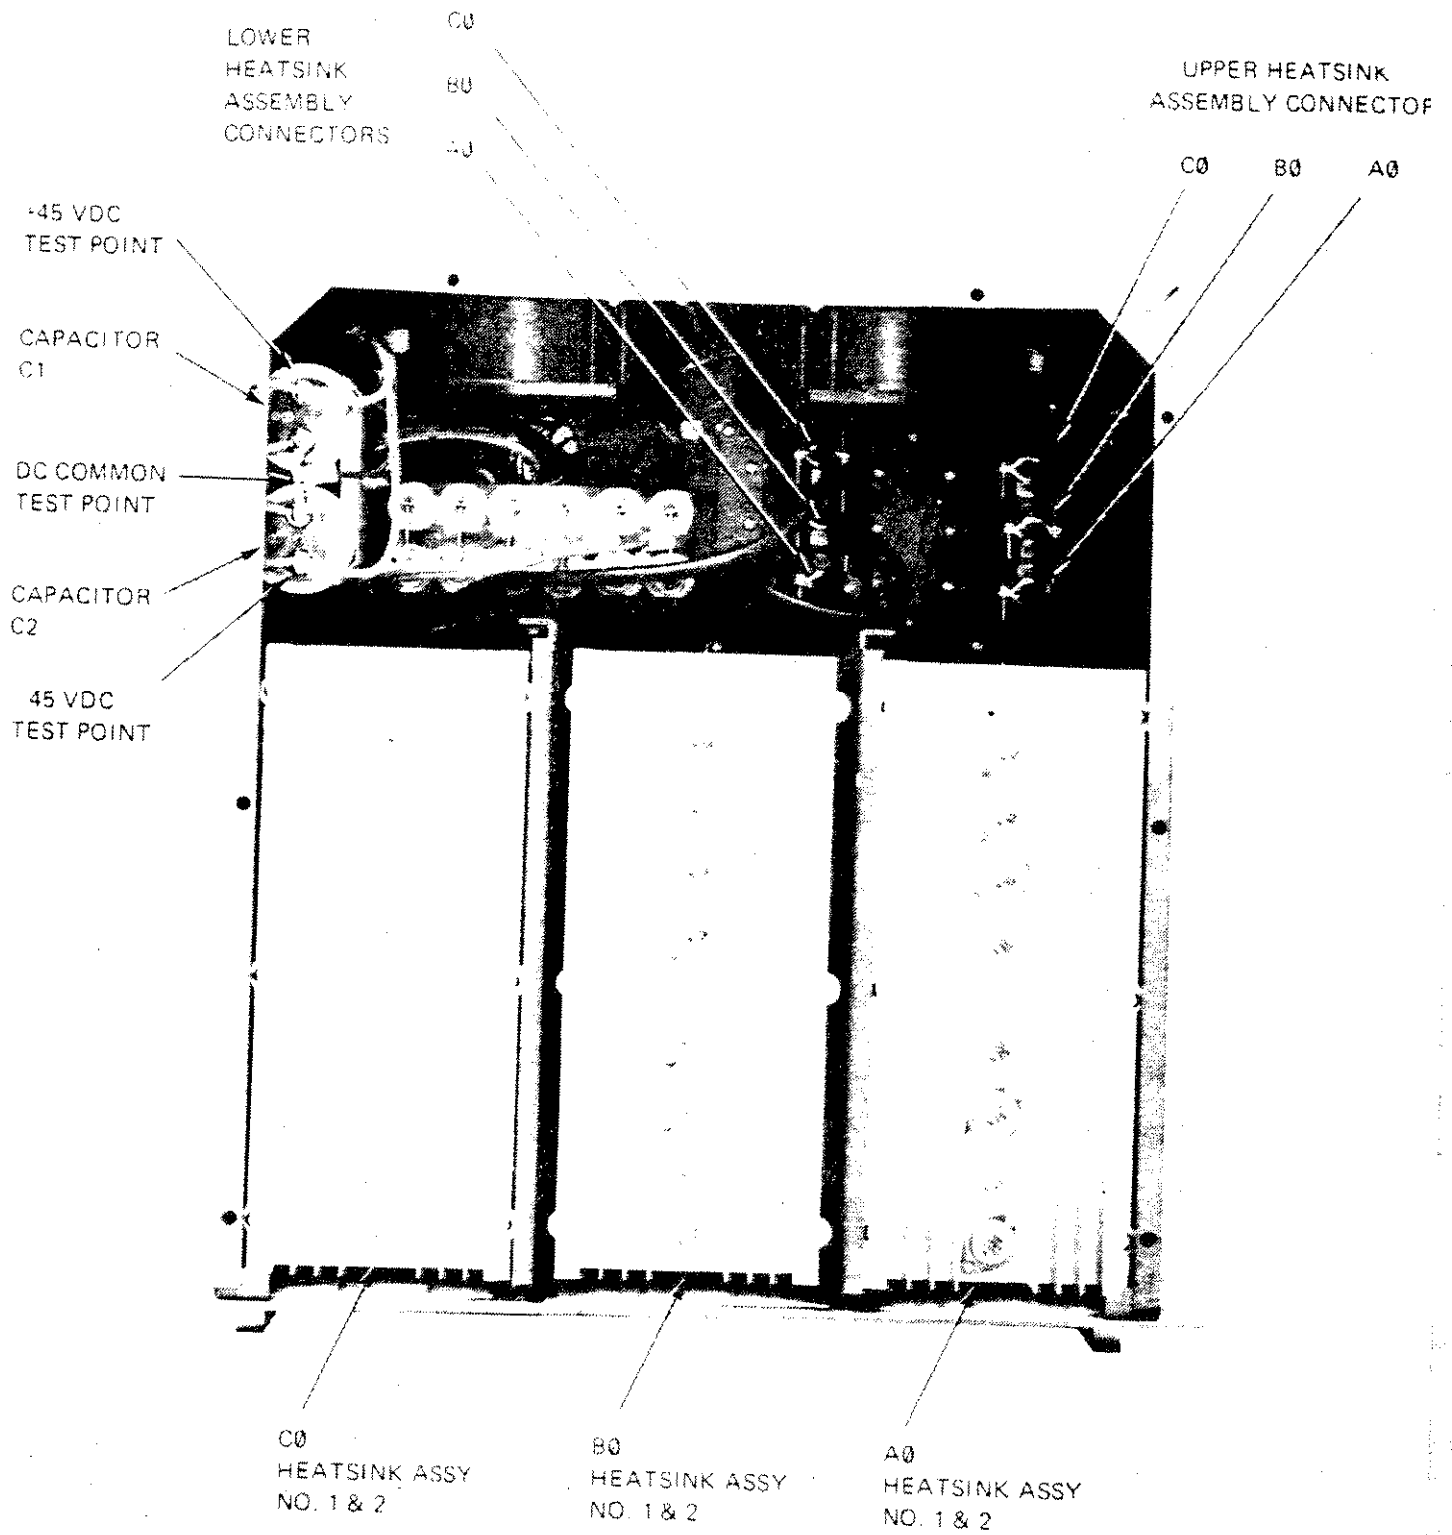

Figure 5-1. AC Power Source, Bottom View
4. Remove bottom panel of unit and disconnect the heatsink plugs. Tag the connectors to ensure proper reassembly in the unit. (See Figure 5-1.)
3. Using multimeter, measure +45 VDC and -45 VDC outputs of DC power circuit. The +45 VDC is the red lead at C1 and the -45 VDC is the green lead at C2. (See Figure 5-1.) Observe that the plus (+) and minus (-) 45 VDC busses are even readings of 48 VDC nominal (no load) and are within 5% (2 to 3 volts) of each other. If not, discontinue the check-out and troubleshoot the unit to correct the problem.